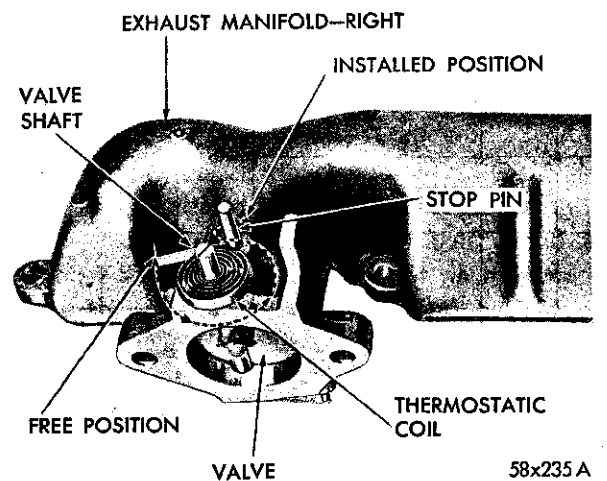

Fig. 10—Positioning the Coil
- (1) Position the valve shaft in the extreme counter-clockwise position.
- (2) Place the new coil in position in the shaft slot, with the outer end (tongue) of the coil in the lower left hand position, as shown in Figure 10. Press the